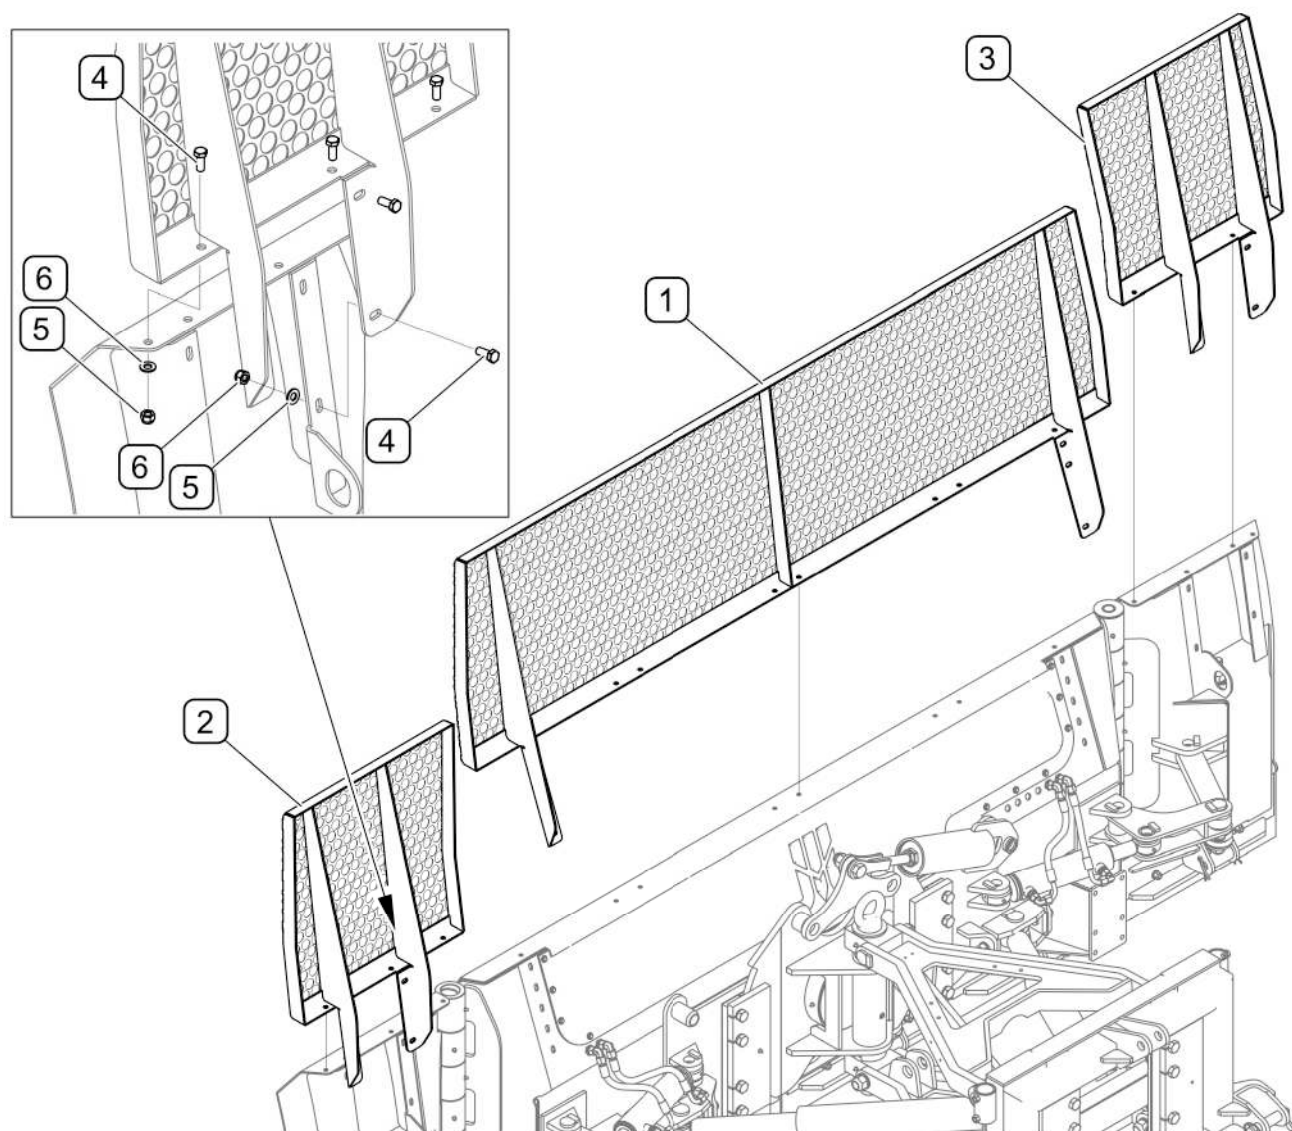

FIG. 4.11 Mouldboard extensions for silage
- Mouldboard extensions for silage - catalogue no. 380N-07000000 (FIG. 4.11)